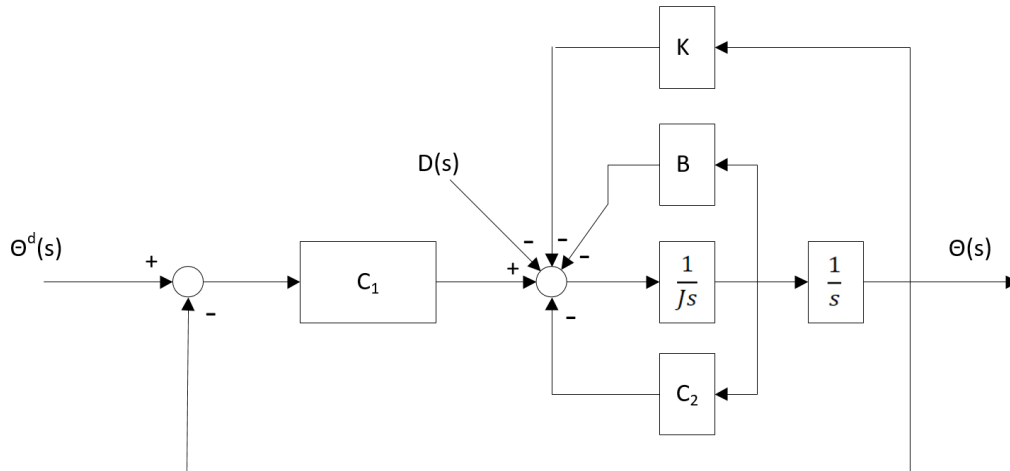

Figure 5: Control system
- (2.5 %) Figure 5 shows the system with controller in Laplace domain. What is the name of the controller used here?
- (10 %) Working further with the controller in figure 5, how can we remove the steady state error, and still have a fast responsive system that reacts to the rate of change of the process value? What is the name of this new controller? Find the closed loop transfer function between the input value ( $\Theta^d(s)$  - desired angle) and output value ( $\Theta(s)$  - actual/measured angle) for the system with this new improved controller. Use the final value theorem to calculate the steady state error for the closed loop control system with this new improved controller, when both the desired angle  $\Theta^d(s)$  and the disturbance  $D(s)$  are "step inputs". Comment on the result.